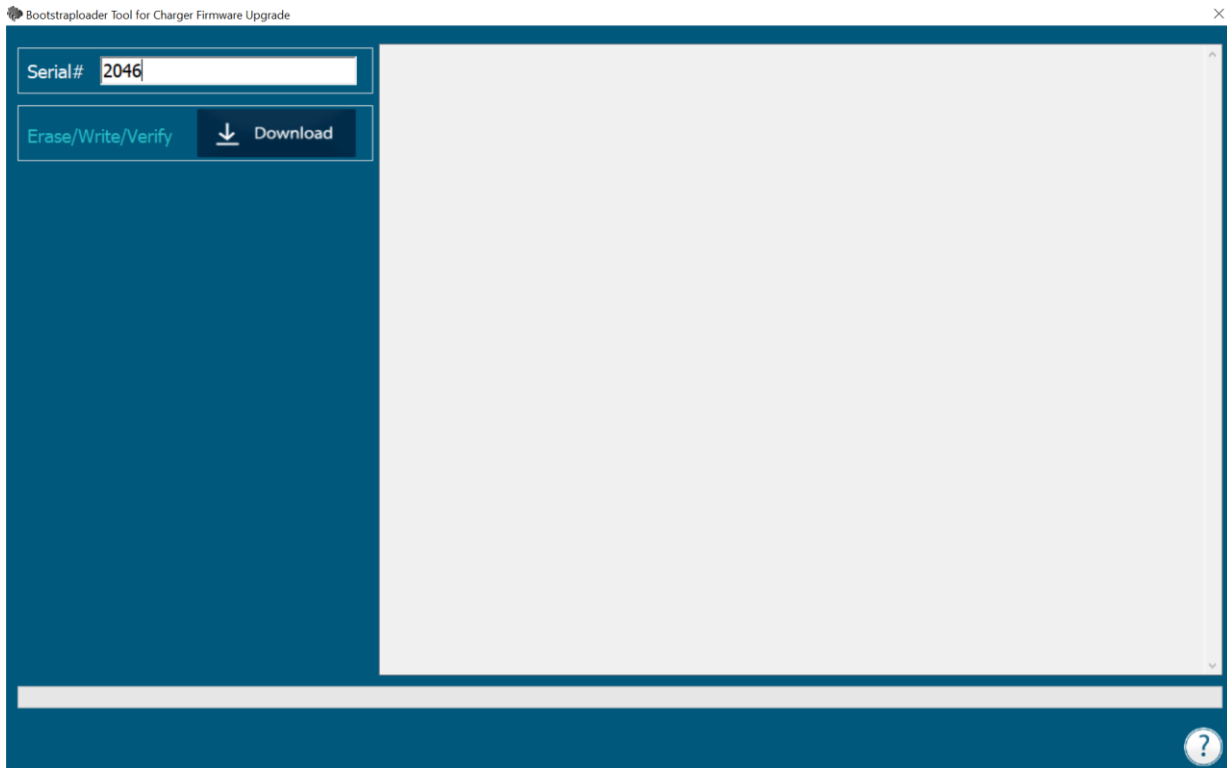

Figure 84: Bootstraploader Tool Screen
11. Enter the serial number of the Guardio/Vesta Charger in the **Serial#** field. **See Figure 84.**